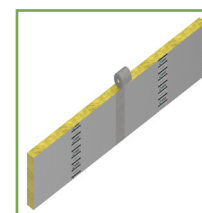

Fig 3. Foil tape is applied to seal the vertical joints.
- Apply 1STOP foil tape to vertical joints from top to bottom, to assist acoustic integrity, and to maintain integrity of the smoke barrier. (Fig.3)